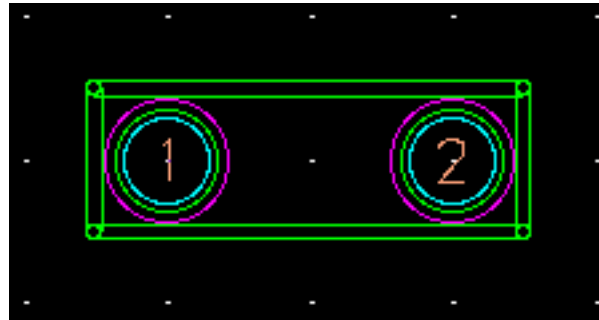

Figure 3-19. The Capacitor Body Added
9. Draw the capacitor body using the same method you used to create the resistor body outline. Refer to Figure 3-19 to see the shape and size of the capacitor body outline. When you finish drawing the body outline, cancel the Add Line prompt bar if it repeats.